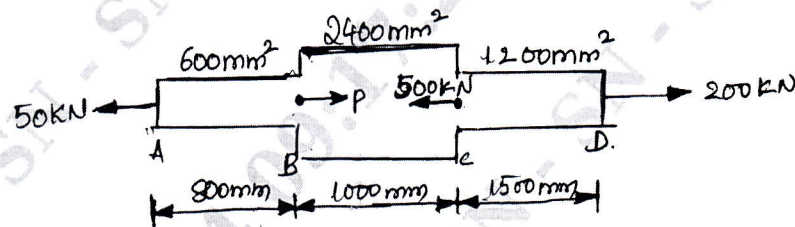

Fig.Q.2(c)
- c. A member ABCD is subjected to point loads as shown in Fig.Q.2(c). Calculate: i) Force 'P' necessary for the equilibrium ii) Total elongation of the bar. Take $E = 210 \text{ GN/m}^2$. (08 Marks)